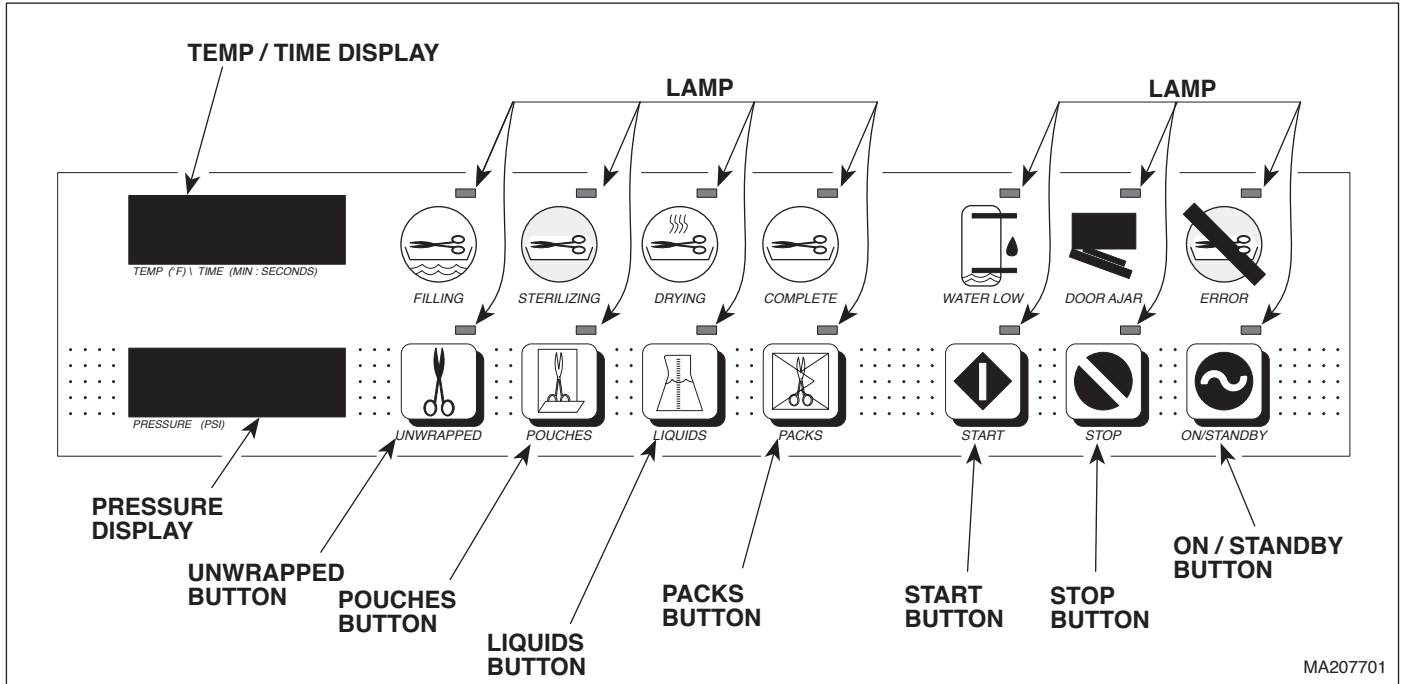

Figure 4-30. Display PC Board Lamp / Display / Button Check
- (1) Disconnect power cord from the sterilizer.
- (2) Press and hold down the LIQUIDS and PACKS buttons simultaneously, while connecting the power cord to the sterilizer (See Figure 4-30). Release the LIQUIDS and PACKS buttons.
- (3) Observe the display PC board lamps. In a left to right sequence, each lamp on the display PC board should individually illuminate and then extinguish. If all the display PC board lamps do not illuminate and then extinguish, replace display PC board (Refer to para 4.21).
- (4) Press and release the UNWRAPPED, POUCHES, LIQUIDS, PACKS, START, STOP, AND ON/STANDBY buttons one at a time and in this order.
- (5) Observe the lamps that correspond with each button. If all lamps do not illuminate and stay illuminated when their corresponding button is pressed, replace the display PC board (Refer to para 4.21).
- (6) Observe the pressure and temperature/time displays. If the pressure and temperature/time displays do not display pressure and temperature readings, replace the display PC board (Refer to para 4.21).
- (7) Disconnect power cord from the sterilizer.
- (17) Disconnect the power cord from sterilizer.